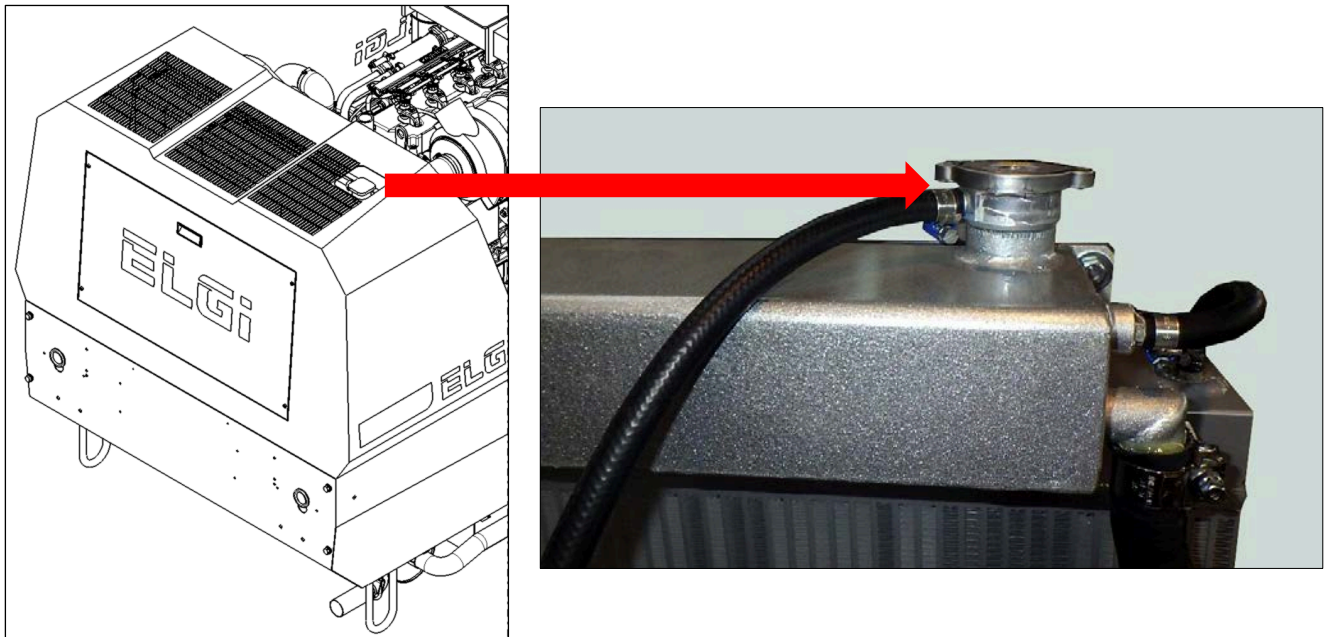

Figure 10.1-3 Checking the radiator cooling liquid
- 6 If the motor compressor is equipped with a liquid-cooling diesel engine, check the level of the antifreeze contained in the radiator (Figure 10.1-3).
WARNING: *the radiator cap (Figure 10.1-3) must never be removed when the engine is hot: this would cause a sudden outflow of liquid which might cause severe scalding. Topping up - if required - must be made by means of a blend of water and anti-freeze liquid, in the percentage indicated on the container.*